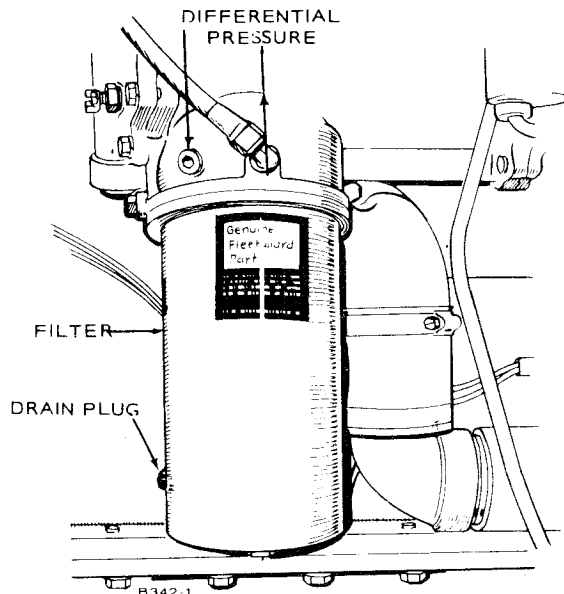

FIGURE 28. LUBRICATION OIL FILTER
1. Remove drain plug (see Figure 28) and allow oil to drain.